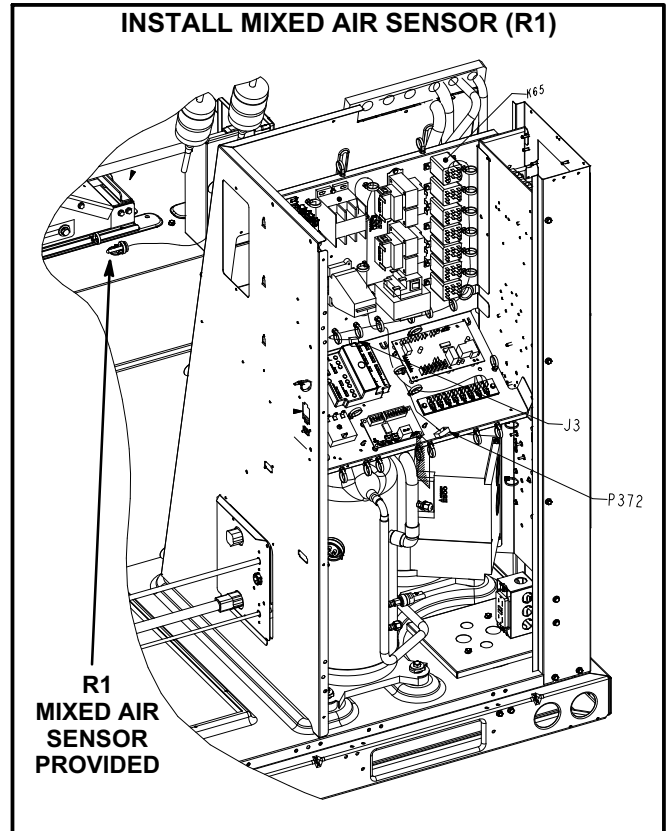

FIGURE 16
- 1- Connect J3 harness wires marked "R1" to the 10" R1 adapter harness. Connect the other side of the R1 adapter harness into the mixed air sensor. See figure 16. Make sure to secure wires away from moving parts.